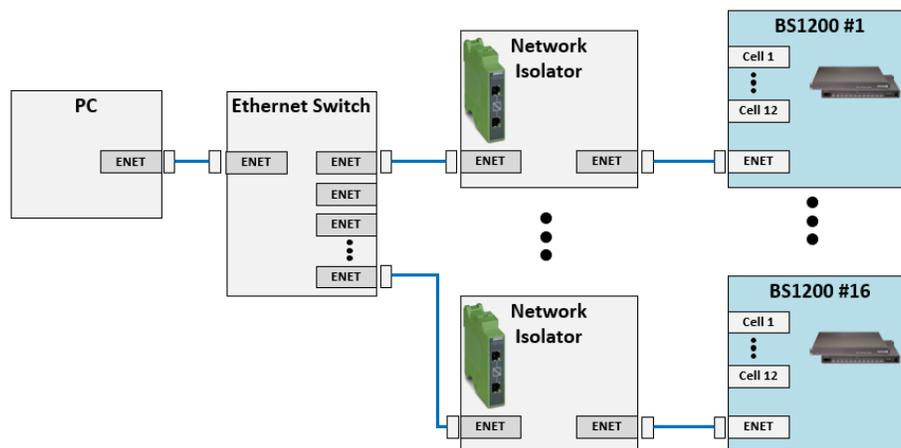

Figure 3: Install one network isolator per Battery Simulator 1200 when the Ethernet port is used or connected.
- a) Use an Ethernet isolator, such as a Phoenix Contact FL ISOLATOR 1000-RJ/RJ2, to connect each Battery Simulator 1200's Ethernet port to any non-isolated Ethernet switches or computers. (See Figure 3.)